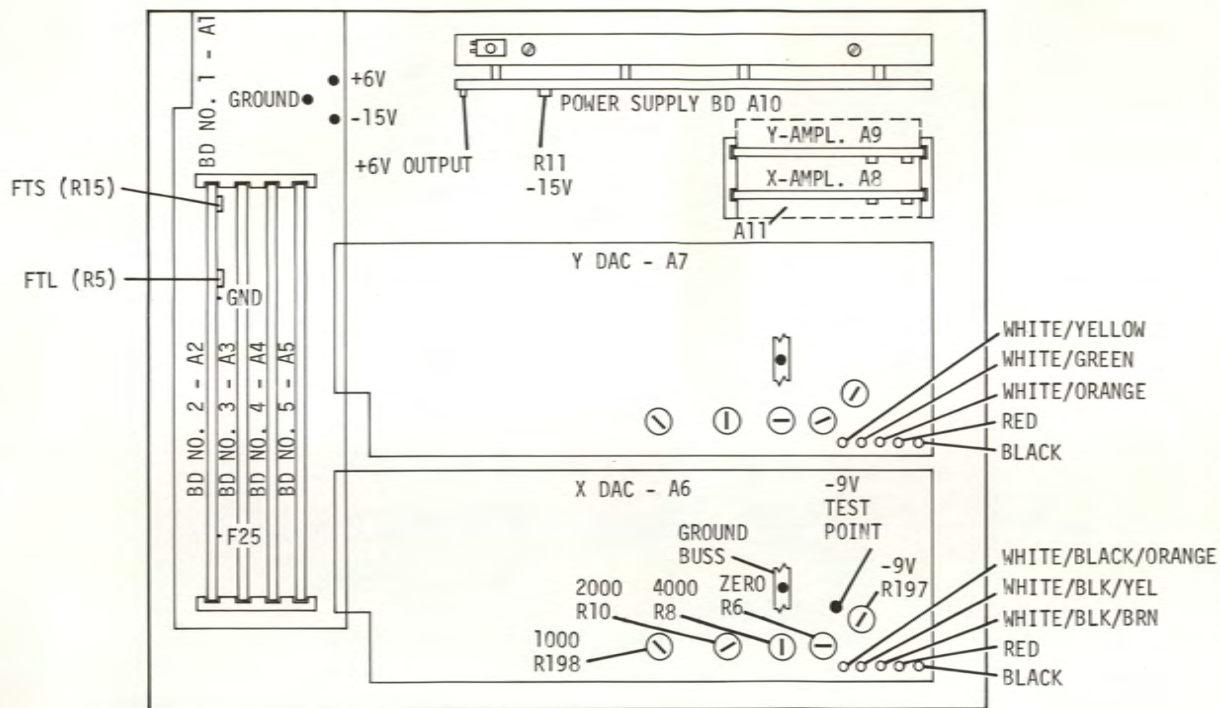

FIGURE 3-22. CARD LOCATION GUIDE
Above referenced to digital ground, A1 (ground). See Figure 3-22.
Above referenced to the respective DAC ground buss. See Figure 3-22.
Above referenced to the respective axis amplifier common (see Figures 3-22 and 3-23).
3-56. SLIDEWIRE REFERENCE SUPPLY ADJUSTMENTS. Perform the following tests with the HP 3460B DVM monitoring the points indicated in Table 3-3. Set the SERVO switch to STANDBY. X amplifier A8 may be removed while performing the adjustments on the Y amplifier A9. See Figures 3-22 and 3-23 for locations of test points and adjustments.
d. Monitor the short timer output at test point FTS relating to ground on same circuit board, and adjust the interval to 90 ms ± 20 ms, using A2R15 (see Figure 3-22).
3-59. LONG TIMER. Monitor the long timer output at test point FTL and adjust the interval to 1.02 second ± 0.02 second, using A2R5 (see Figure 3-22).
b. Use the 3460 DVM to make all DAC output voltage measurements. Connect the negative lead to DA terminal (see Figure 3-22) and positive lead to the ground buss on the appropriate DAC.